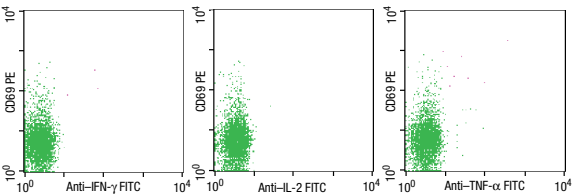

Figure 2A Unstimulated samples, R1 and R2 gated
4. Display data as CD69 vs cytokine dot plots to determine cytokine expression (Figures 2A and 2B). Analyze data using CellQuest or PAINT-A-GATE PRO™ software.